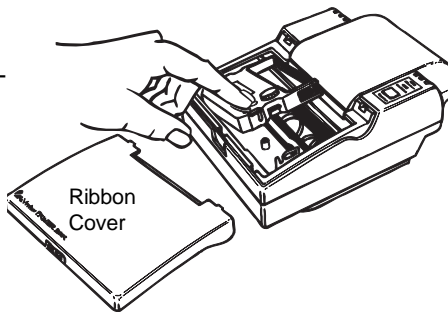

Figure 7. Replacing the Ribbon Cartridge
4. Press the right side of the ribbon cartridge into place (Figure 7). If it does not fit easily, lift the cartridge out and try again. Do not force the ribbon cartridge into place.